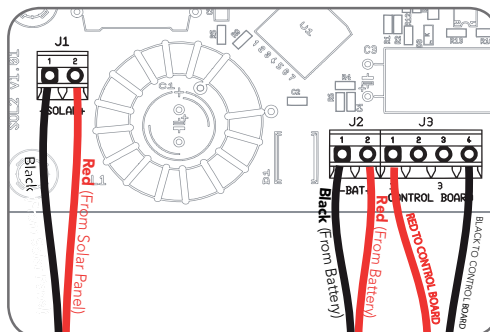

Fig 66
5. Connect the **red wire** to the Charger Board's "BAT+" connector, and the **black wire** to the "-BAT" connector (**Fig. 66**).